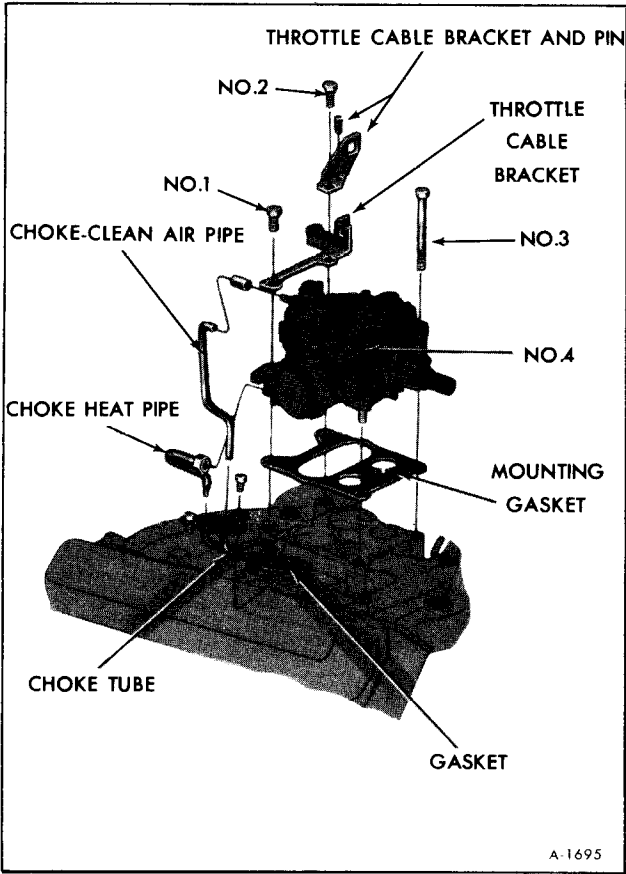

Figure 10–Carburetor Installation
2. Install carburetor. Torque attaching bolts to 15 ft. lbs. in sequence as shown in Figure 10.